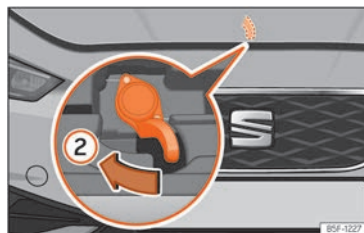

Fig. 222 Lever under the bonnet.
- To lift the bonnet, press towards the left on the lever located under the bonnet, in the centre »» Fig. 222 ②. The arrester hooks are released.